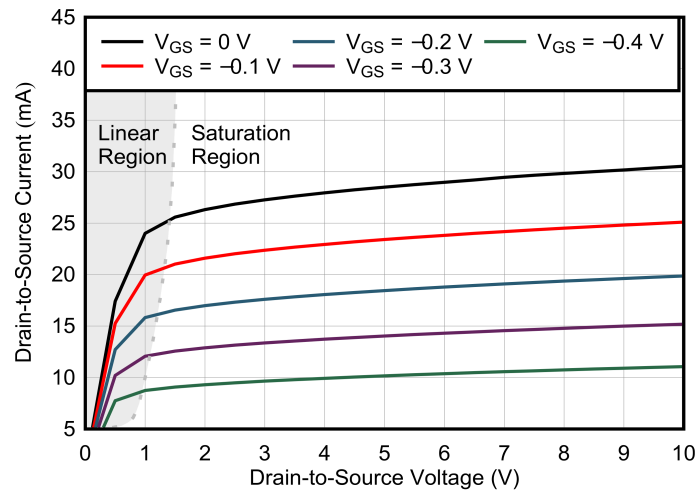

图 8-1.  $V_{DS}$  vs  $I_{DS}$
- For  $V_{GS} > V_{GSC}$ : Two modes of operation can exist depending on  $V_{DS}$ . When  $V_{DS}$  is less than the linear (saturation) region threshold (see Figure 8-1), the device operates in the linear region, meaning that the device behaves as a resistor connected from drain-to-source with minimal variation from any changes in  $V_{GS}$ . When  $V_{DS}$  is greater than the linear (saturation) region threshold,  $I_{DS}$  has a strong dependence on  $V_{GS}$ , where the relationship is described by the parameter  $g_m$ .